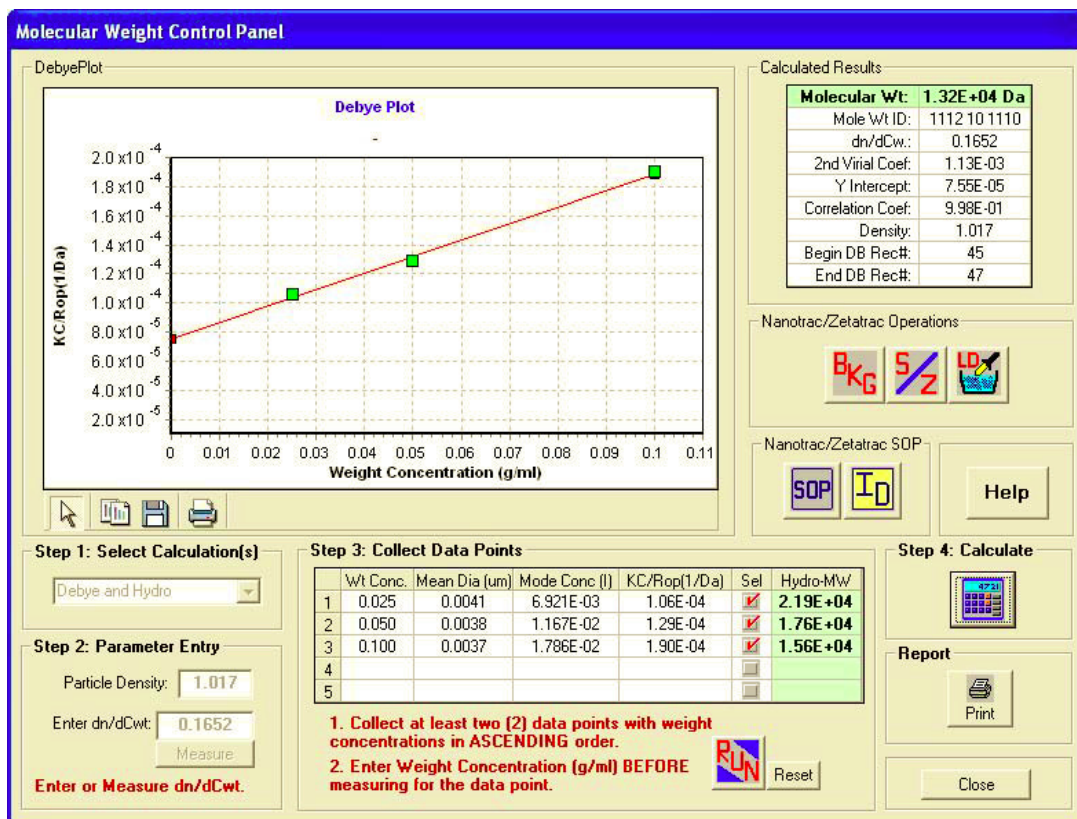

Fig. 10: Debye plot
- Molecular weight AND  $dn/dc$  result from one single Debye plot analysis – see Fig. 10